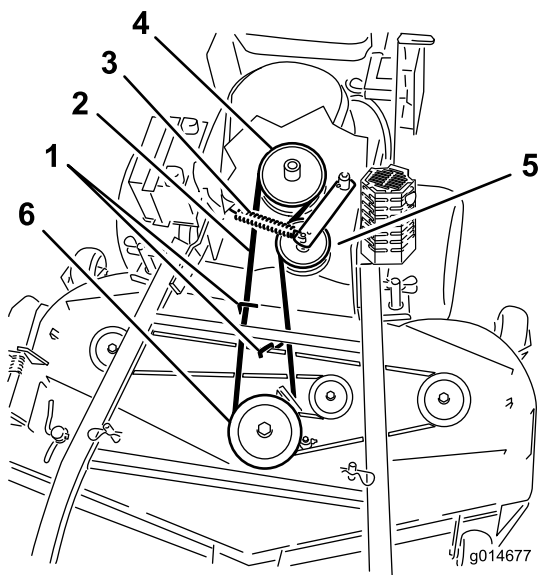
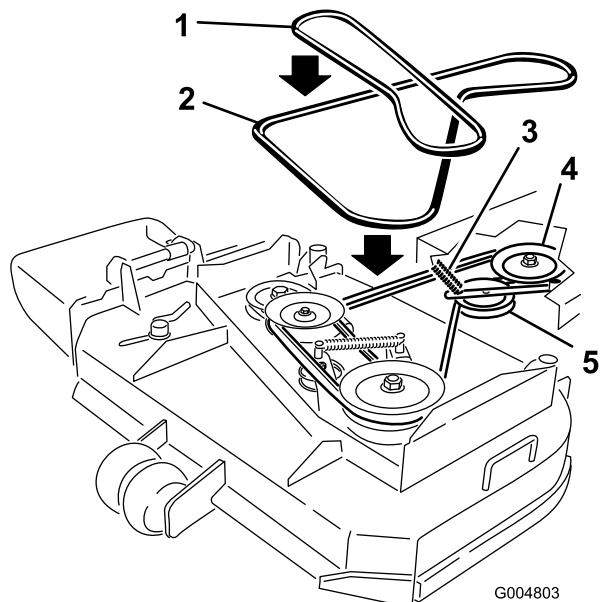

Figure 50
Figure 51
6. Roll the belt off of the center pulley on the mower deck (Figure 50). Refer to Figure 51 to roll the belt off left pulley for a 36 inch mower deck. Use caution when removing the belt as tension will increase because of the spring loaded idler pulley.
7. Remove the belt from the engine pulley and the spring loaded idler pulley (Figure 50). Refer to Figure 51 to remove the belt from the 36 inch mower deck pulleys.
8. Install the new belt onto the engine pulley and spring loaded idler pulley (Figure 50).
9. Roll the belt onto the center pulley on the mower deck (Figure 50). Use caution when install the belt as tension will increase because of the spring loaded idler pulley. Refer to Figure 51 to roll the new belt onto the left pulley for a 36 inch mower deck.
11. Adjust the belt guide an 1/8 inch (3 mm) from the belt for 40, 48 and 52 inch mower decks (Figure 50).